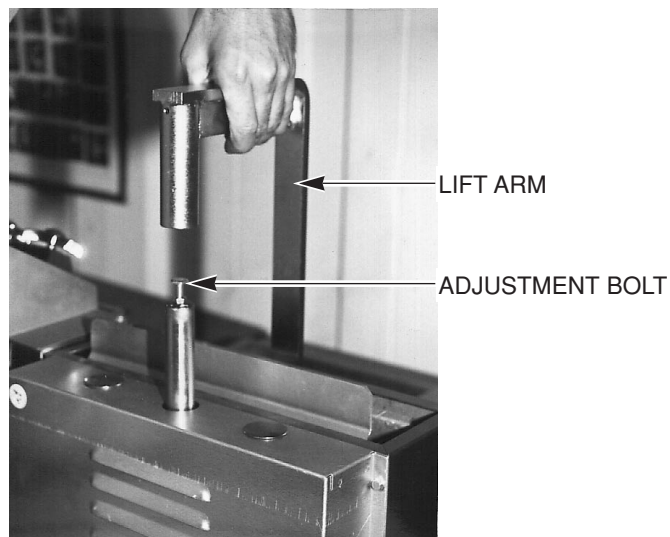

Fig. 3
4. Turn by hand the adjustment bolt to the required position. (Fig. 3)